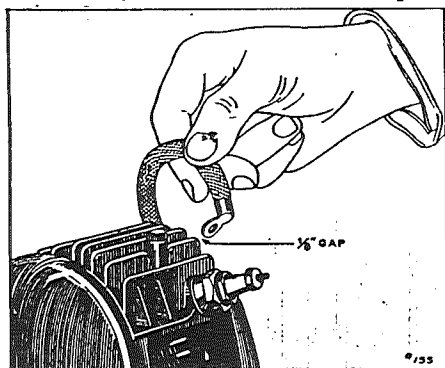

Fig. 3.
28. To be sure that you have a spark at the spark plug, you can remove the wire from the plug and hold it within $\frac{1}{8}$ " of any metal part of the motor (See Fig.3). Keep the hand back on the insulated part of the wire so that you will not get a shock. Then crank the motor and see if a spark will jump this $\frac{1}{8}$ " gap. If it does, you will know that the spark is amply strong to jump the small gap at the spark plug when under compression in the motor. This test is